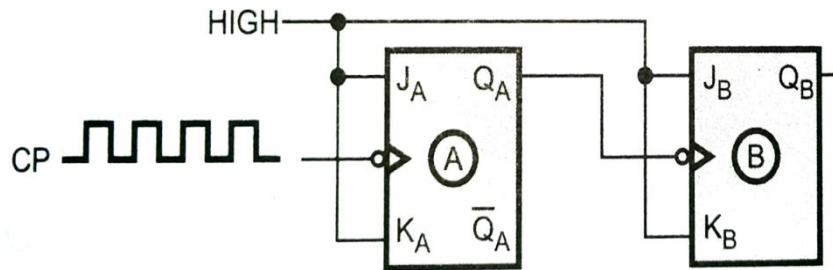

Figure 3.3: A two-bit asynchronous binary counter
- A complementing flip-flop can be obtained from a JK flip-flop with the J and K inputs tied together as shown in figure 3.3